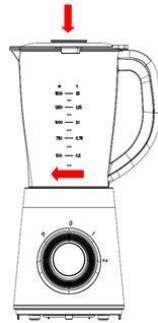

Fig. 1
1. Place the Jar on the Motor Unit, Turn the jar clockwise until a click will be heard when locked into position properly. Please see Fig.1.